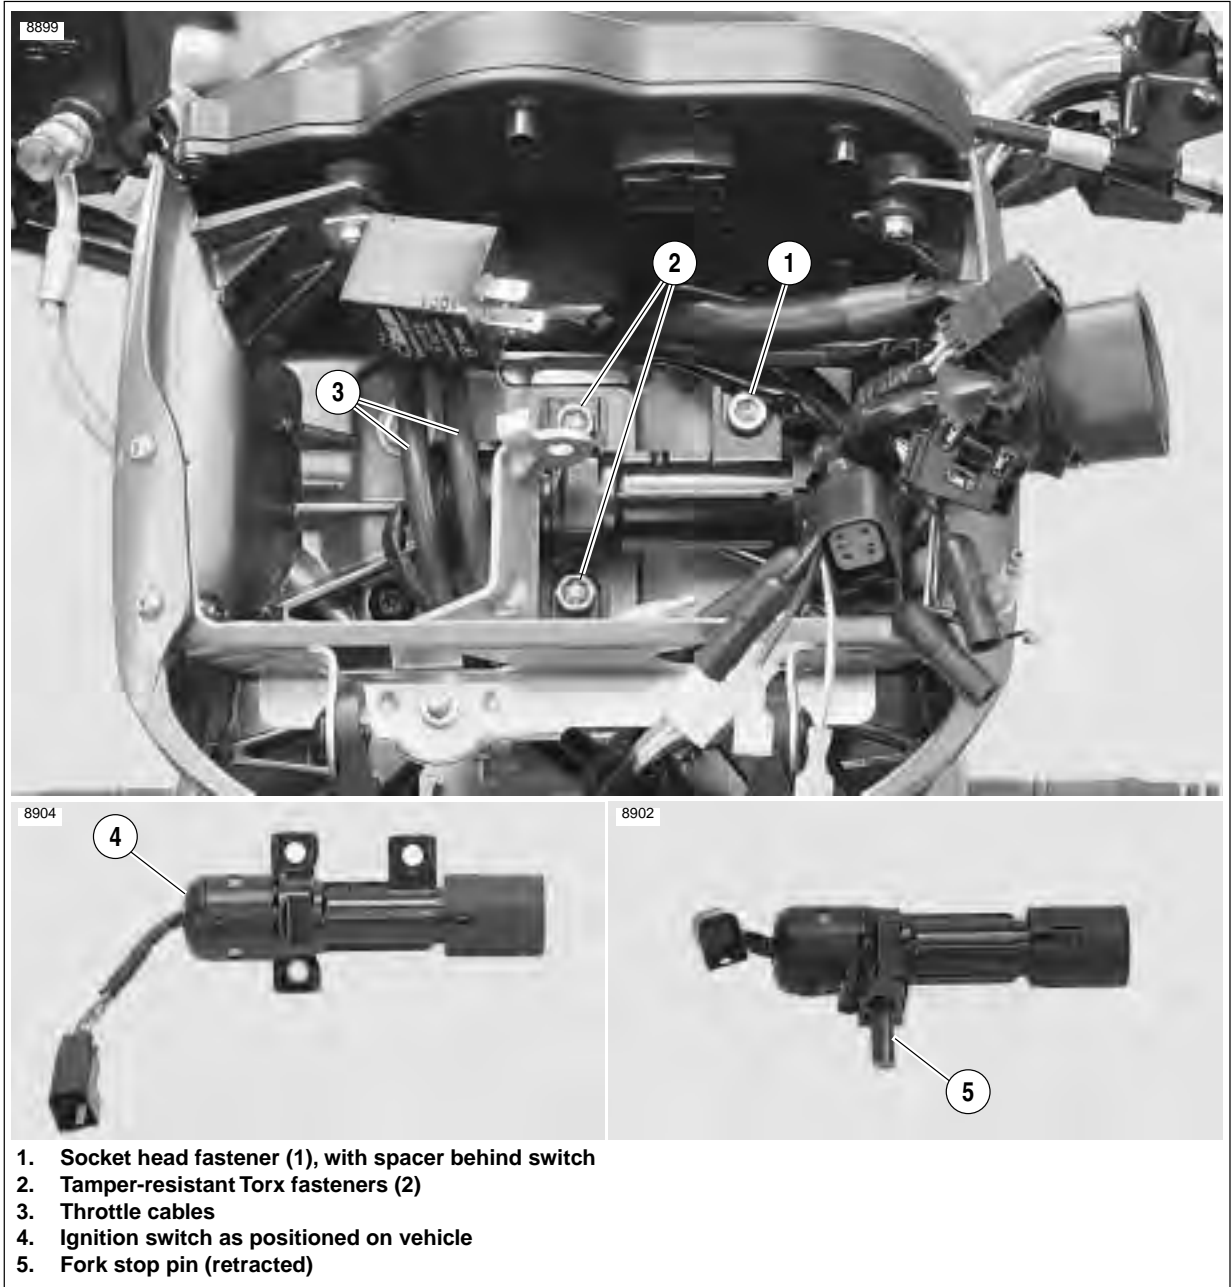

Figure 7-4. Ignition Switch (Typical)
7. See Figure 7-4. Use Snap-on Tamper-Resistant T45 Torx driver (Part No. FTXR45E) to remove the two tamper-resistant Torx fasteners (2) securing ignition switch to upper fork clamp.
8. Remove the final ignition switch fastener (1) along with spacer located behind the ignition switch.
9. While holding the throttle cables (3) to your left (the right side of the vehicle), pull the ignition switch (4) toward you and roll the assembly away from you until the fork stop pin (5) is pointing down.
1. See Figure 7-4. While holding the throttle cables (3) to your left (the right side of the vehicle), slide the ignition switch assembly in to your right (the left side of the vehicle).
2. Install the ignition switch (4) with the fork stop pin (5) pointing down and, once in place, roll the assembly toward you and insert the fork stop pin into the upper triple clamp.